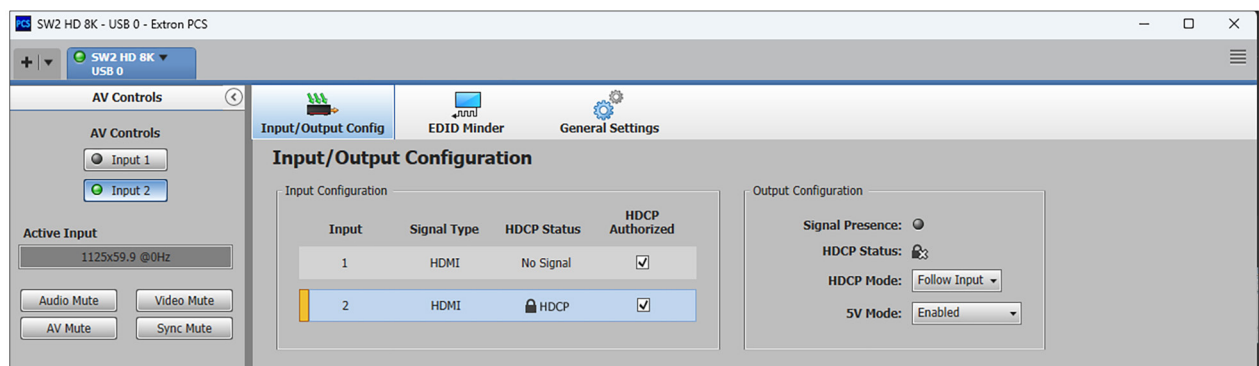

Figure 14. Input/Output Configuration Window
3. Click **Connect** (❷). The PCS screens for SW HD 8K open with the Input/Output Configuration window (see figure 14).